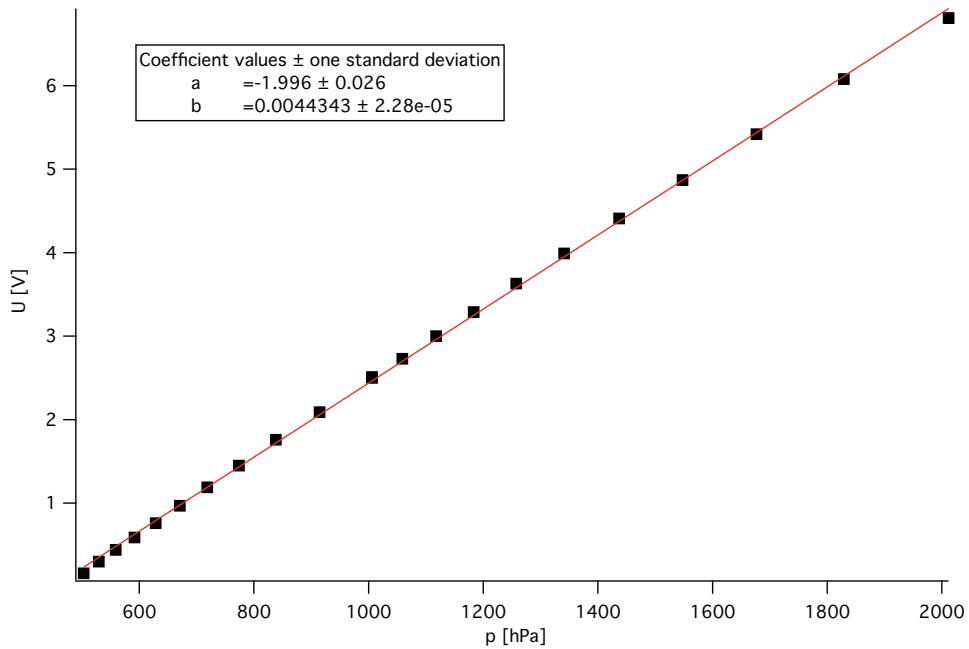

Figure 1.4: Calibration of the pressure output voltage as a function of the pressure p .
- Insert the USB stick into the oscilloscope and save the image directly after completing the overpressure measurement by pressing the 'Print' button (see Fig. A.1.1). The negative pressure area is measured by expansion by pulling the tube over the syringe of 10 ml volume and then increasing the volume by withdrawing the syringe plunger in ml increments up to 20 ml . Proceed analogously as in the pressure range. The volume of the tubing (about 0.07 ml) can be neglected. Figure 1.4 shows a measurement example.